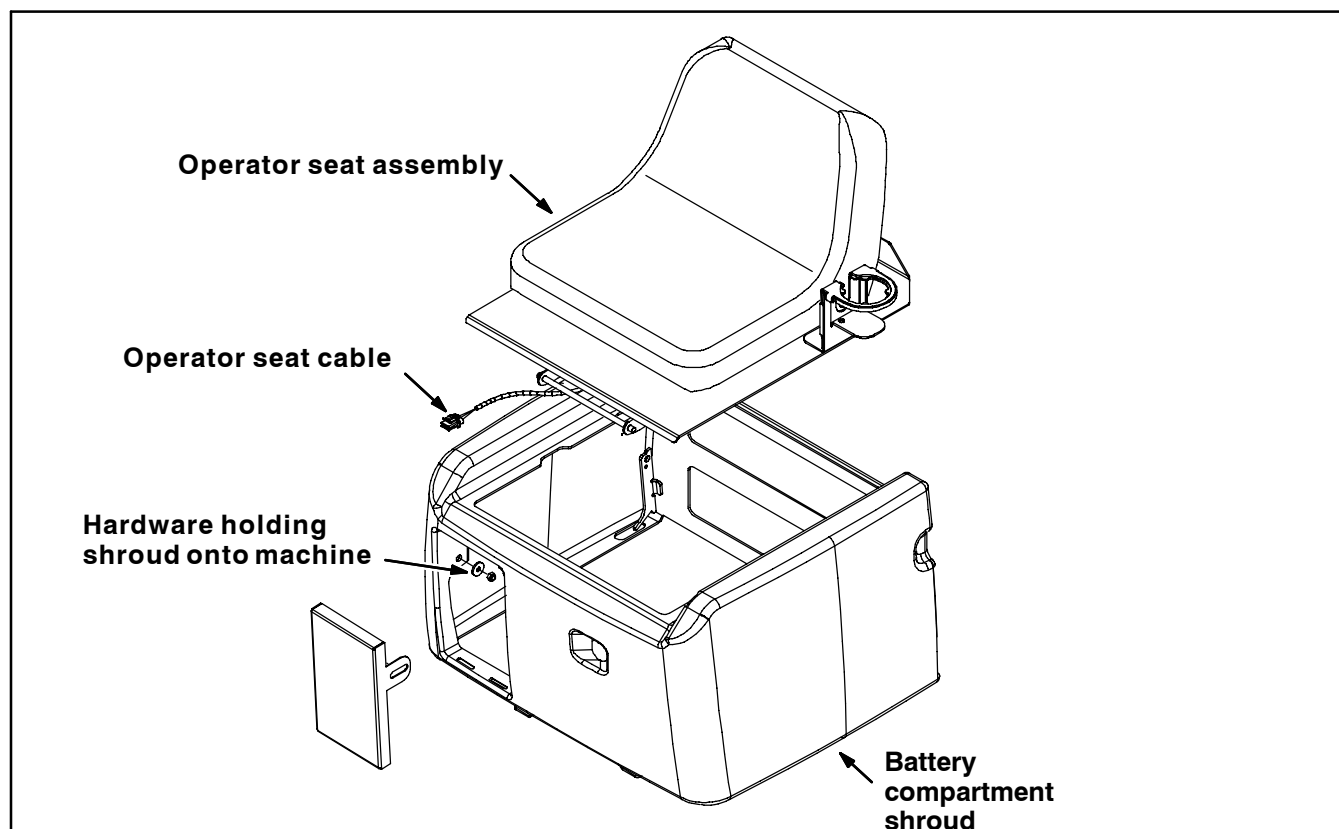

Fig. 6
4. Disconnect the operator seat connector from the main wire harness and remove the seat from the machine (Fig. 6).
5. Remove the battery compartment shroud from the machine. Set the shroud and hardware aside (Fig. 6).
18. Place the battery compartment shroud onto the machine and reinstall the hardware to secure the shroud onto the machine (Fig. 6).
19. Reinstall the operator seat onto the machine and connect the operator seat cable to the main wire harness (Fig. 6).